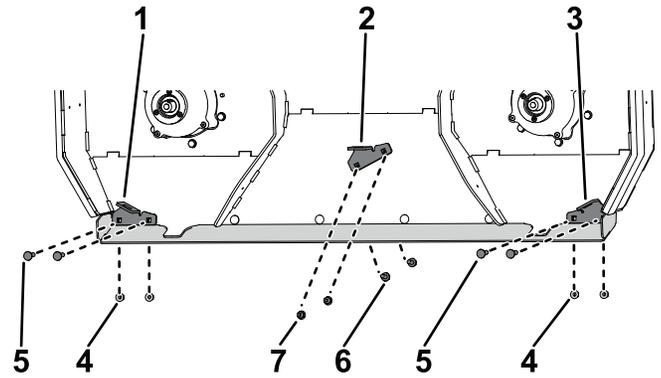

Figure 13
2. Secure the left and right baffle supports to the deflector bracket and mower deck using 4 carriage bolts (5/16 x 1-1/4 inches) and 4 flange nuts (5/16 inch) as shown in Figure 13.
3. Secure the center baffle support to the mower deck using 2 hex-head flange bolts (5/16 x 3/4 inch) and 2 flange nuts (5/16 inch) as shown in Figure 13.